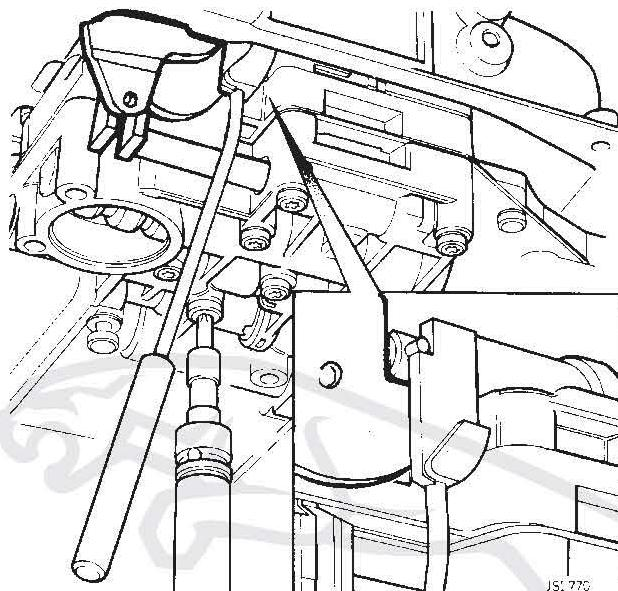

FIG 4
7. Align valve block assembly in position and using the setting gauge JD 103 set the distance between the detent roller location pin and valve block (Fig 4), ensuring that no pressure is applied to the kickdown cable. Tighten the retaining screws from the centre, working outwards in a circular manner to a torque of 8 Nm. Remove the setting gauge.